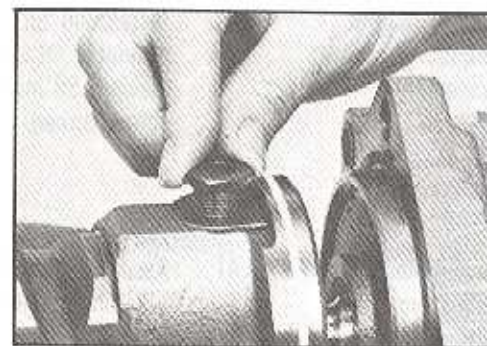

Figure 145
36. Apply "Loctite Hydraulic Sealant" to the threads of locking screw (36) and assemble locking screw and the **new** locking washer (36A) into rack piston (35). Position the tabs on the locking washer toward the ball nut end of the rack piston. SEE FIGURE 145. Torque locking screw to 30-35 ft. lbs. (41-47 N m). 3/8 inch Allen socket required. SEE FIGURE 146.